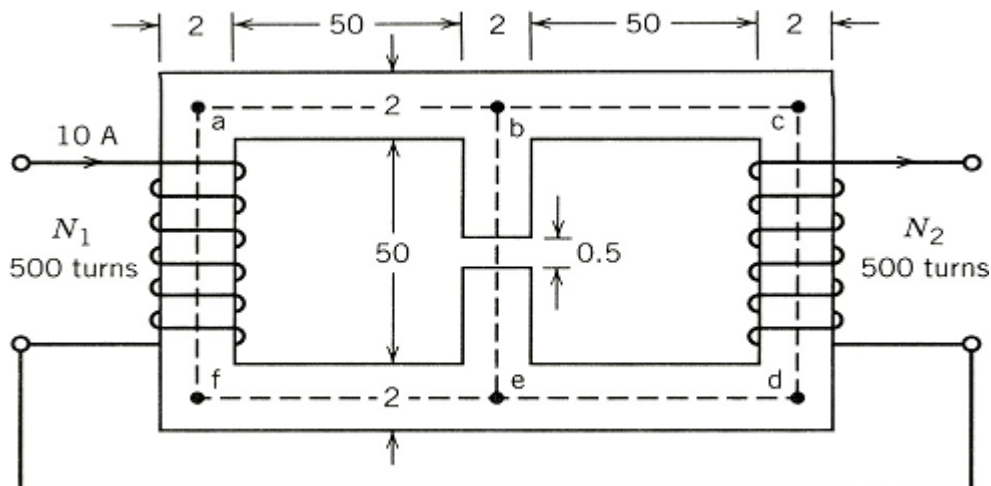

Figure 1 Magnetic circuit
- Q.2** In the magnetic circuit of Fig.1 the relative permeability of the ferromagnetic material is 1200. Neglect magnetic leakage and fringing. All dimensions are in centimetres, and the magnetic material has a square cross-sectional area. Determine the air gap flux, the air gap flux density, and the magnetic field intensity in the air gap. (16)